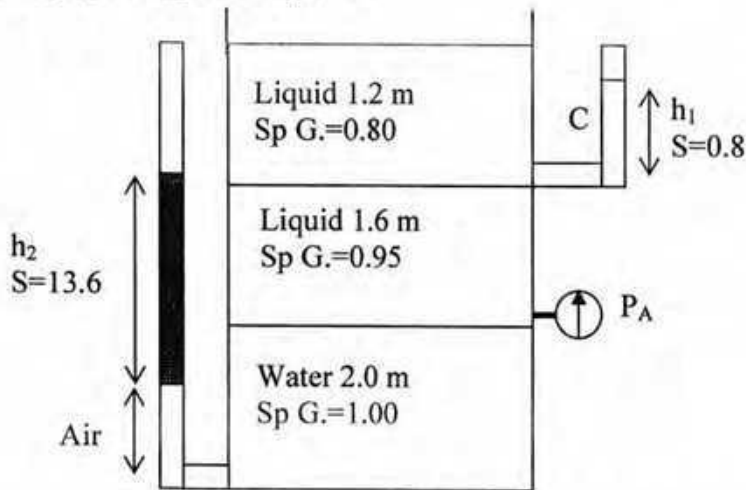

Figure 2
e. Calculate h_1 , P_A and h_2 from Figure 2.